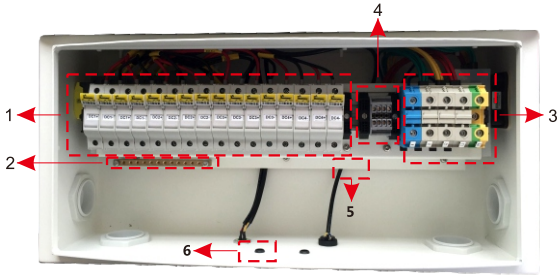

Figure 3.10 – Four (4) channels and the maximum allowable amperage per fuse and channel
Figure 3.10 shows four (4) channels and the maximum allowable amperage per fuse and channel. The fuse for each string is 15A. Do not change fuse size.
Terminal 4 (Figure 3.10) has screw terminals for a multiple inverter communication solution using a standard MODBUS cable such as Belden stranded cable.